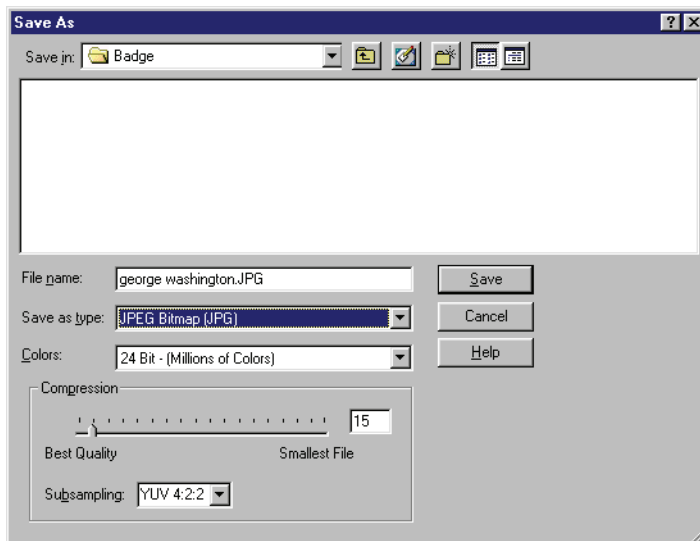

Figure 9-25 Export User Photo
9. If desired, the user image can be exported to one of a variety of graphic file formats. Click on the  button. A file Save As window appears (see Figure 9-25).